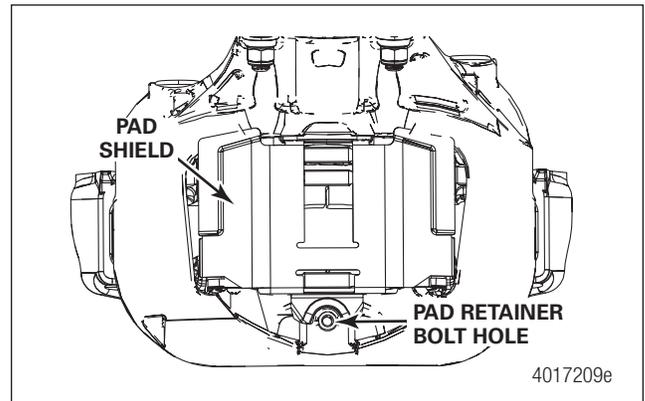

Fig. 6.22 Pad Shield and Pad Retainer
STEP 4 - Where used, place the shield on the caliper before installing the pad retainer. Inspect the shield for damage and replace if necessary. Position the pad shield so that the pad retainer bolt hole is centered in the crush section of the shield and with the bent tabs against the tappet plate and the ends of the shield resting on the caliper. Figure 6.22.